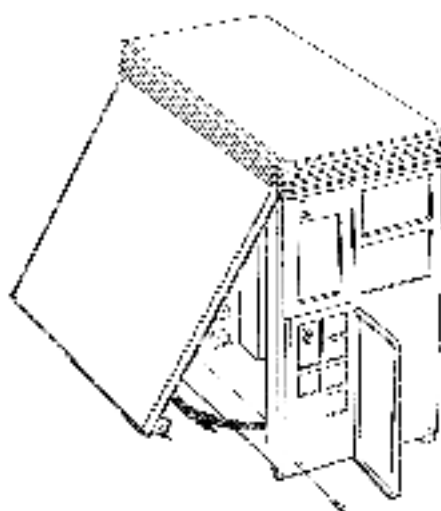

Figure 10-4 Left Side Panel Unhooking
3. Loosen the screw that connects the left-side panel to the front of the enclosure frame (Figure 10-4).